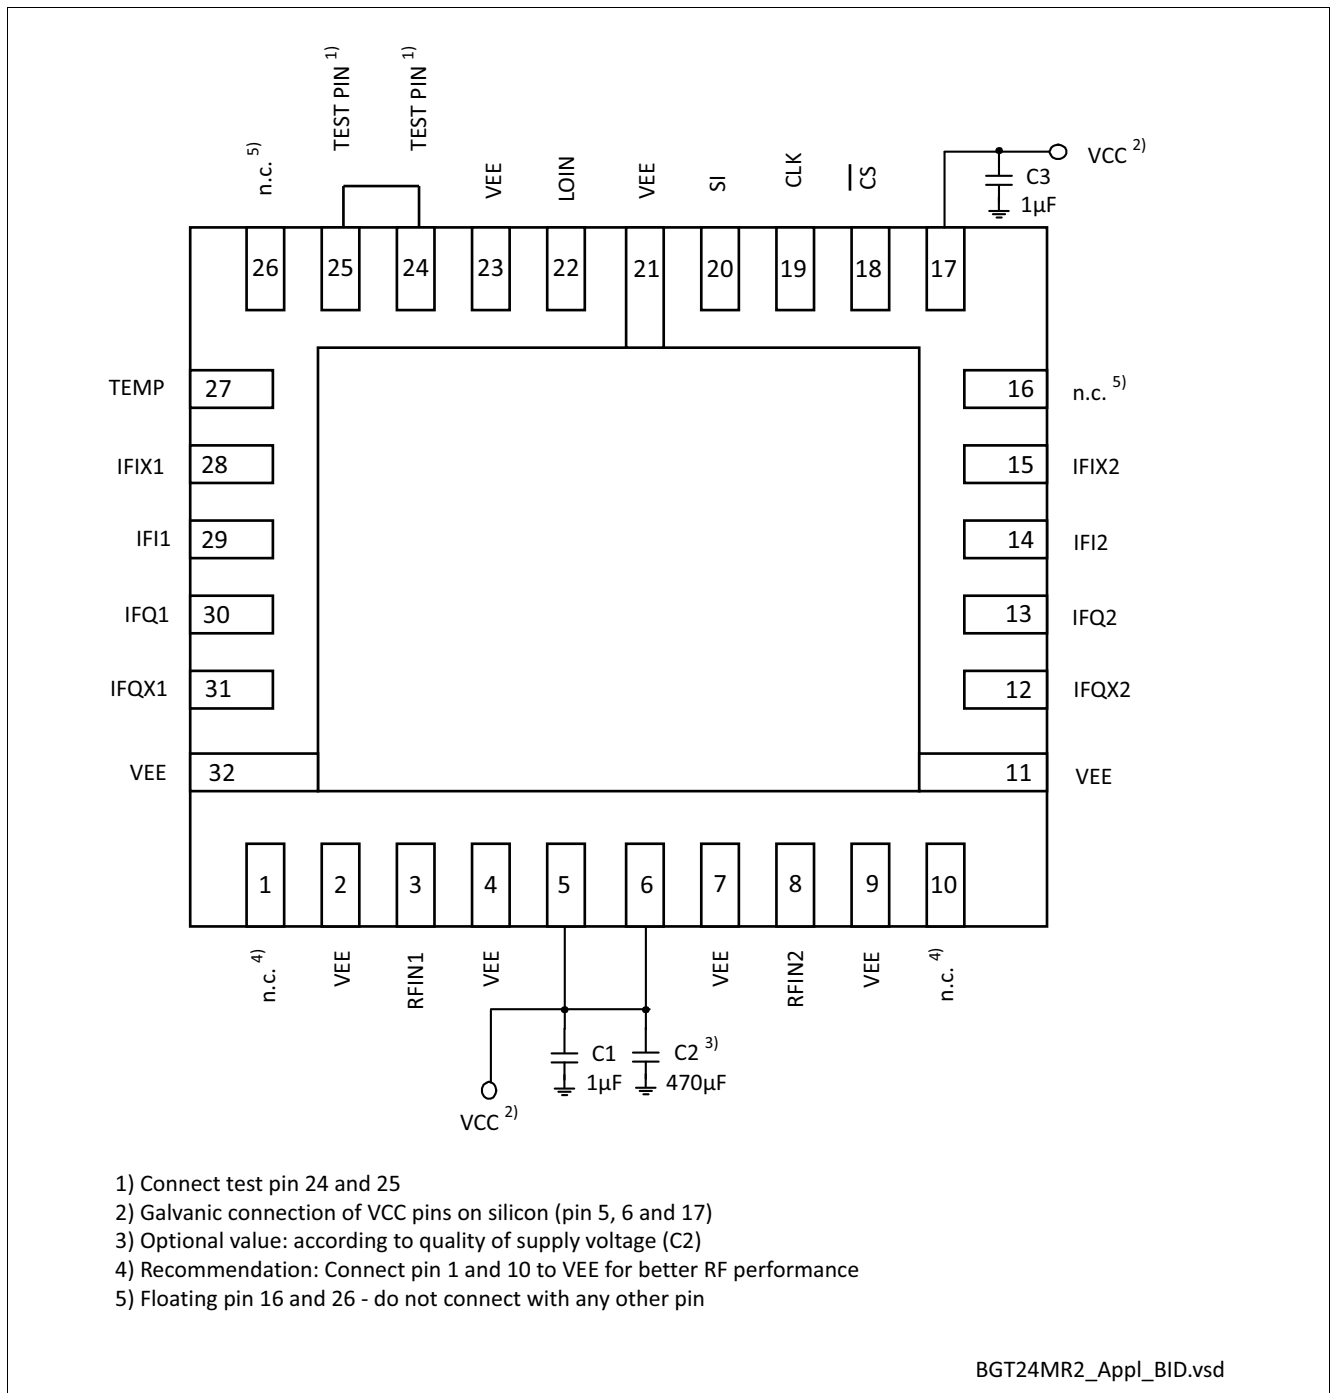

Figure 2 Application Circuit with Chip Outline (Top View)
- 1) Performance based on Application Circuit Figure 2 on Page 13, Cross Section of Application Board, Compensation Structures and Application Board Layout Figure 4 on Page 18ff and Footprint Figure 8 on Page 21